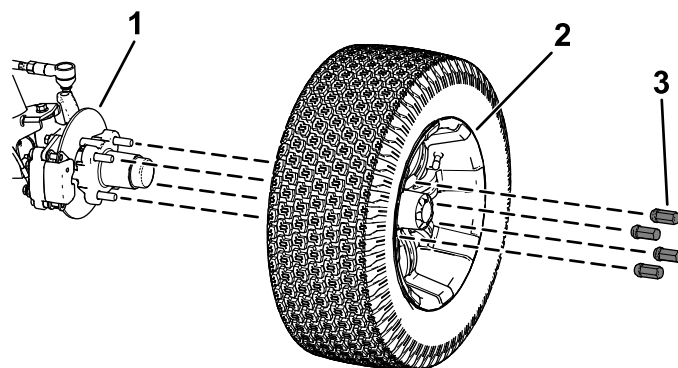

Figure 35
2. Remove the 4 lug nuts that secure the wheel to the hub (Figure 35).
4. Align the holes in the wheel to the studs of the hub and assemble the wheel to the hub with the valve stem outward (Figure 35).
5. Secure the wheel to the hub using the lug nuts (Figure 35).